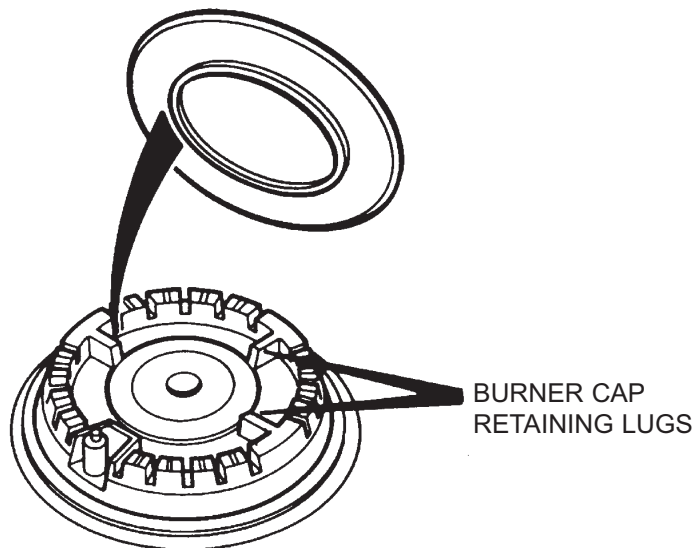

Fig. 9A
14. Replace module hotplate. Reassemble in reverse order (See section 4). Ensure burner heads and burner caps are correctly located (See Fig. 9A, 9B and 9C), and electrodes are not damaged.